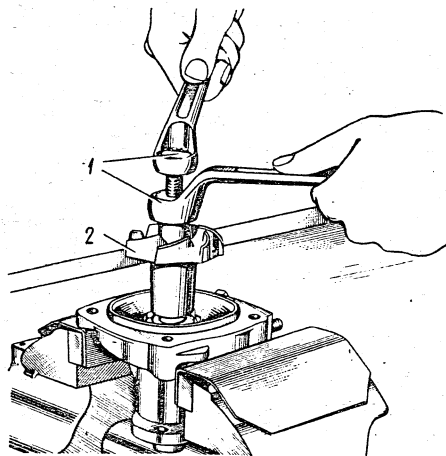

Fig.2-63. Removing the Pump Impeller:
- secure the cover in a vice, using soft gaskets, and take the impeller from the shaft with remover tool A.40026 (Fig. 2-63);